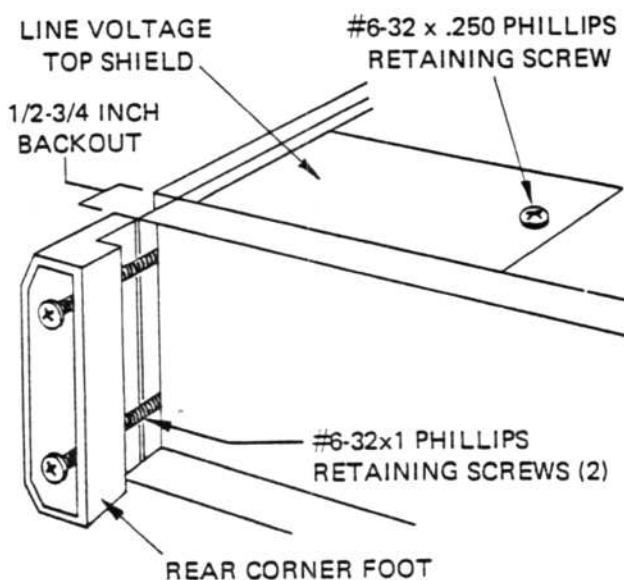

Figure 5.5 - Rear Corner Foot Retraction
5.4.3.1 Top and Bottom Covers - the following procedure should be used to remove the top and bottom covers of the 5001. Refer to Figures 5.5 and 5.6 in completing this procedure.